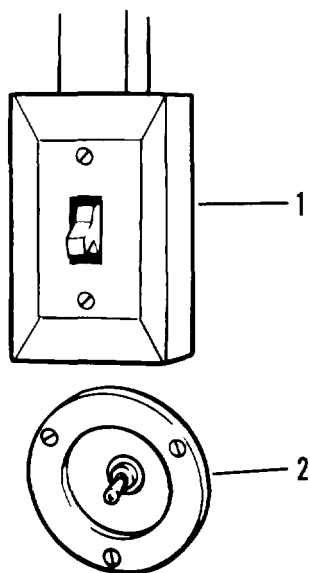

Figure 2-2. Dome light switches
a. 110 Volt Dome Light Switch (1). Controls eight dome lights in semitrailer body (figure 2-2).
b. 24 Volt Dome Light Switch (2). Controls four dome lights in semitrailer body.